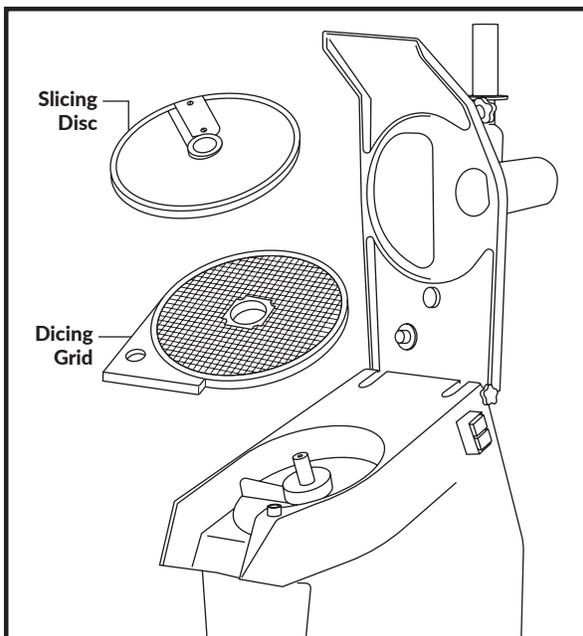

Fig. 5
2. Load the dicing grid. (Fig. 5)
3. Load the slicing disc. (Fig. 5)